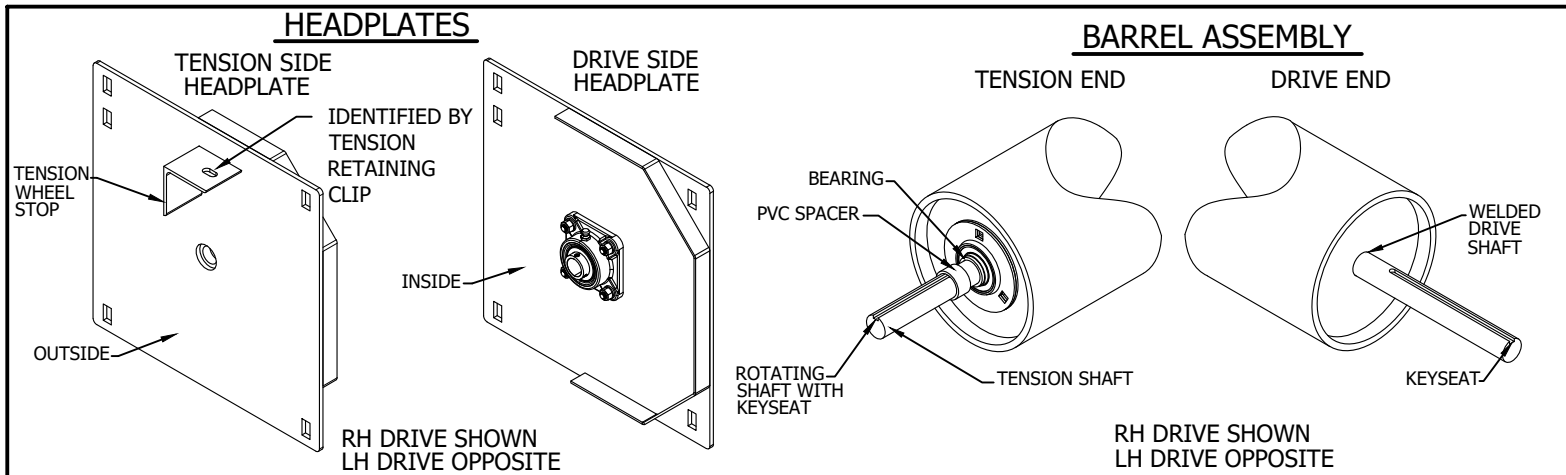

FIGURE 12
- a. Proceed at ground level and identify components as shown in Figures 12 and 13.